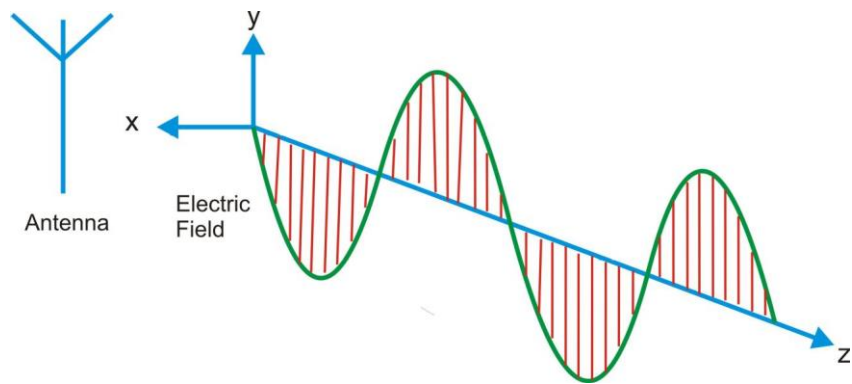

Figure 15
An electromagnetic wave, such as a light ray, consists of two fields, an electric field and magnetic field. These two fields are always at right angles to each other and move in a direction which is at right angles to both the magnetic and the electric fields, this is shown in Figure 15, 16 & 17.
*Figure 15 shows the electric fields moving out from the antenna. In this example the electric field is vertical because the antenna is positioned vertically (in the direction shown by y).*
If the transmitting antenna is placed vertically, the electrical field is vertical and the magnetic field is horizontal (as seen in Figure 15, 16 & 17). If the transmitting antenna is now moved by  $90^\circ$  to make it horizontal, the electrical field is horizontal and the magnetic field becomes vertical. By convention, we use the plane of the electric field to describe the orientation, or polarization, of the 'em' (electromagnetic) wave. A vertical transmitting antenna results in a vertically polarized wave, and a horizontal one